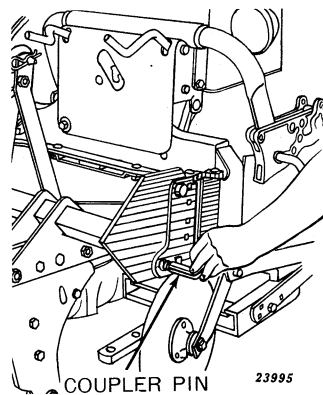

Figure 11—Coupler Pins
3. Raise carrier to engage couplers. Raise plow off ground and insert coupler lock pins (Figure 11).